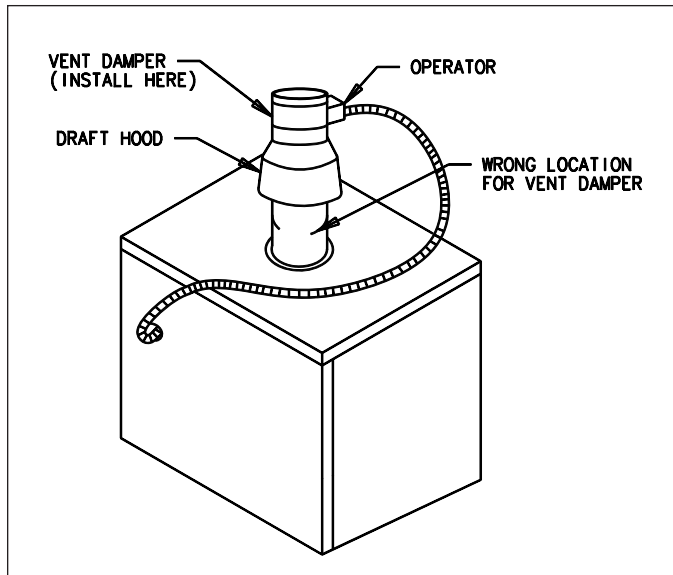

Figure 1. Vertical installation of vent damper on Galaxy Boilers
3. Select a proper, convenient location for vent damper. Vent damper may be installed vertical or horizontal on all models (see figures 1 and 2).
- B. 1. This device must be installed after the boiler draft hood (between the draft hood outlet and the connector to the outdoor chimney or vent) as close to the draft hood as practicable, and without modification of the draft hood or the vent damper. (See figure 1 and 2.)